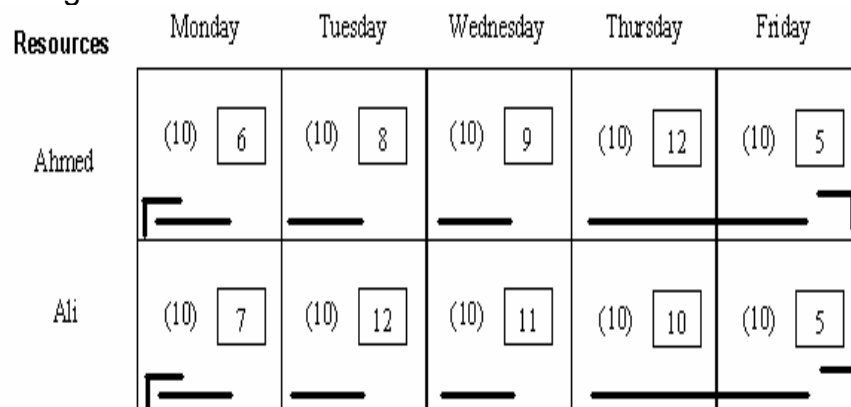

Figure 2.2: Work Week Second
**Gantt chart is essentially a bar graph with time on the horizontal axis and the resources to be scheduled on the vertical axis. It is used for scheduling resources, including management system inputs such as human resources and machines. We can illustrate this in Figure 2.2.**
Figure 2.2 shows a completed Gantt chart for a work period. The resources scheduled over the five workdays on this chart were the human resources (Ahmed and Ali). During this week, both Ahmed and Ali were supposed to produce 10 units a day. However, the actual production deviated from planned production. There were days when each of the two workers produced more than 10 units, as well as days when each produced fewer than 10 units. Cumulative actual production for workweek shows that Ahmed produced 40 units and Ali produced 45 units over the five days.